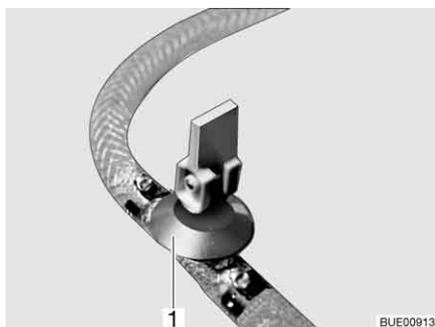
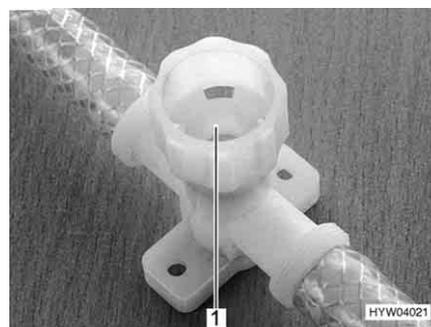

Fig. 181 Drain cock (with rocking lever)
Fig. 182 Drain cock (with twist cap)
- Close all drain cocks. To do this, position the drain cock's rocking lever (Fig. 181,1) horizontally or turn the drain cock's cap (Fig. 182,1) in a clockwise direction.